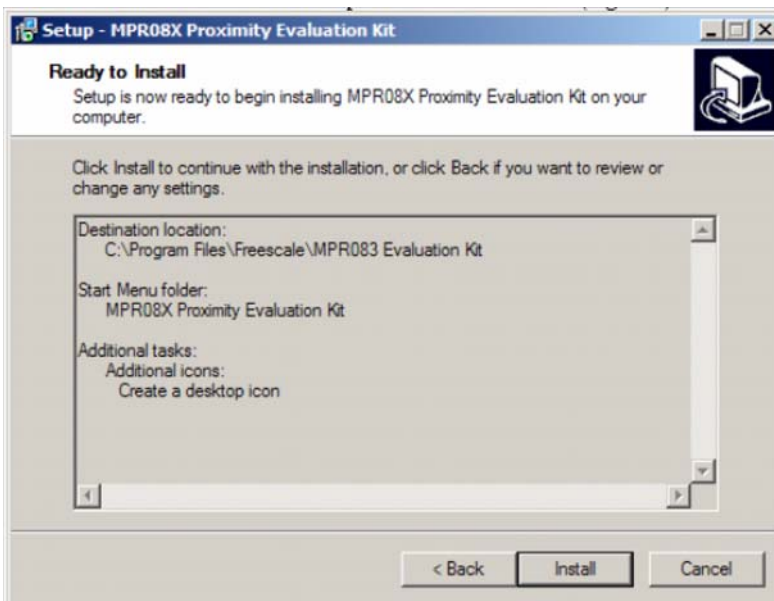

Figure 6. Install
6. Select “Install” if the user is satisfied with the setup. If not, select “<Back” (Figure 6).